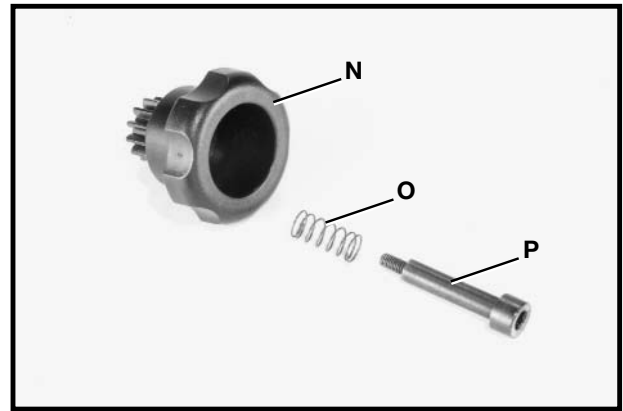

Fig. 9
6. Locate pinion knob (N) Fig. 9, spring (O), and special screw (P).